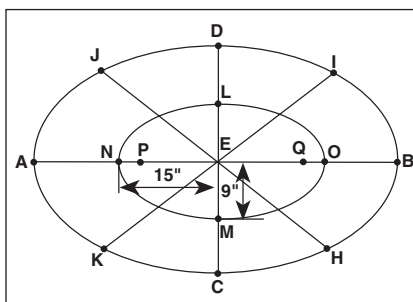

Fig. 4
4. Find the midpoints H, I, J and K of each quarter of the ellipse with a pair of dividers. Locate points L, M, N and O midway on lines ED, EC, EA and EB. Use the length of line EO to mark points P and Q by measuring from O and draw the small ellipse (Fig. 4).